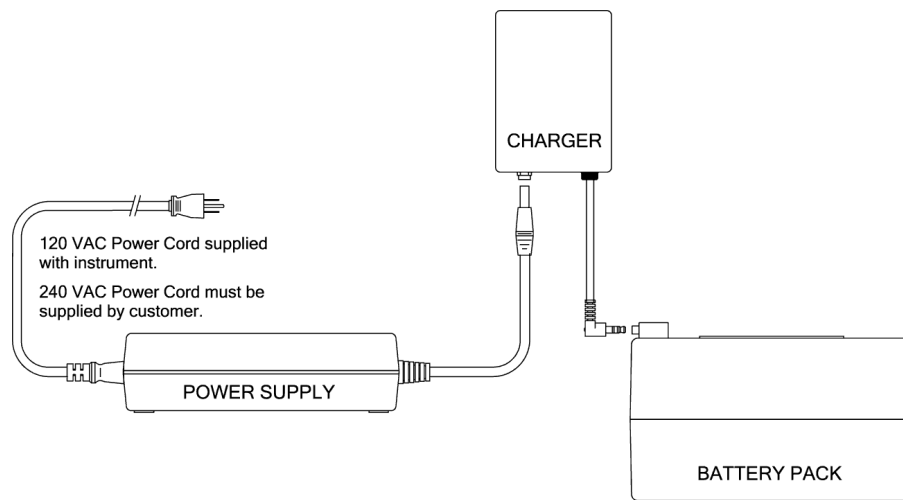

Figure 4-1. Charging the Battery Pack
2. Interconnect the supplied power supply, power cord, and charger as shown in Figure 4-1. Then plug the output of the charger into the battery pack's charger jack.